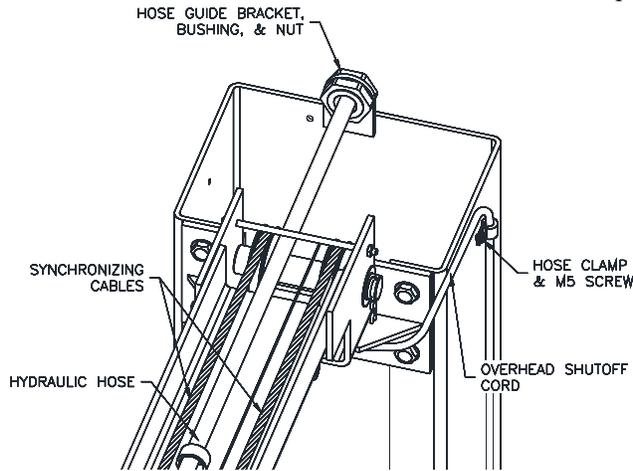

Fig. 8 – Power Side Routing
column extension. Continue across the overhead through each of the guides as shown in **Fig 8** and down the backside of the power column.
- 28) Hoses, cables, and limit switch cord should be routed as shown in **Fig 8** for power side column extension. Route lines for the idler side using the hose guide bracket and idler side pulley bracket.